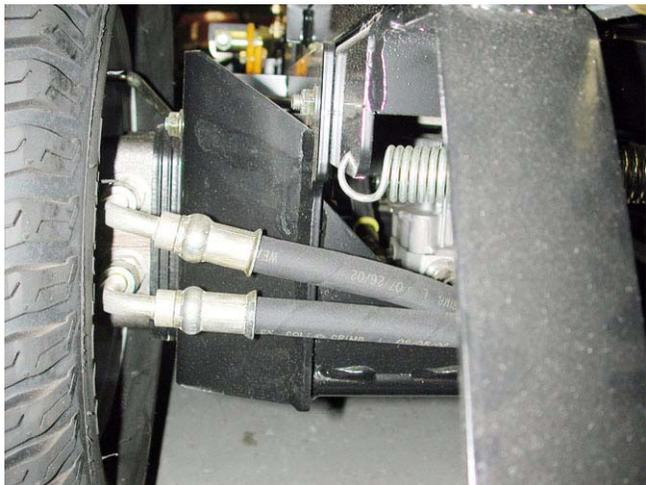

Figure 8.7
8.7. The track at the rear has also increased. Extra brackets have been added to the frame to step the hydro motors out. See Figure 8.7.